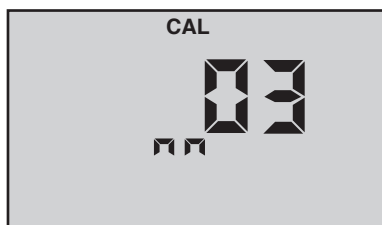

Figure 14
7. Press  $\frac{\text{CAL}}{\text{MCLR}}$  to accept the change (new month), (see Figure 14).